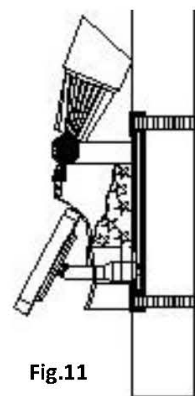

Fig.11
- Attach the pole light unit to flagpole by using stainless steel clamps. There are different sizes of clamps suitable for different size of flagpole. (Fig.11)